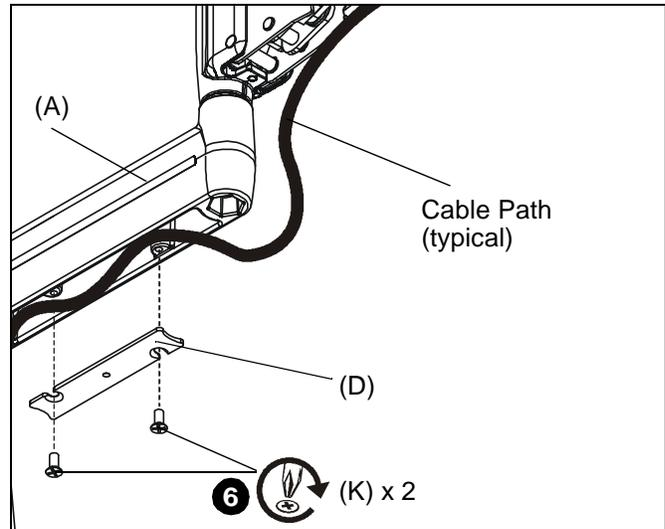

Figure 11
5. Carefully insert cables in cavity located in lower portion of static mount arm (See Figure 11).
6. Using Phillips screwdriver, install cover (D) with two #8-32 x 3/8" screws (K). (See Figure 11)